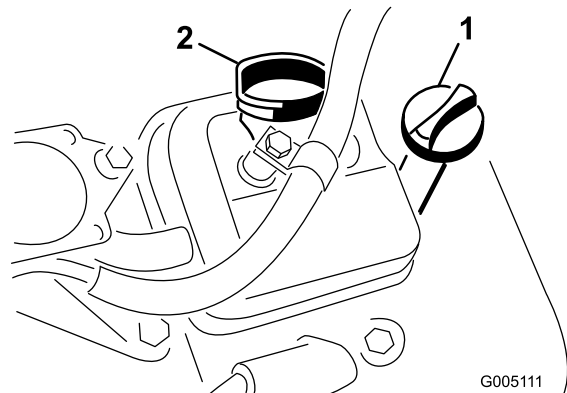

Figure 24
2. Unscrew the dipstick and wipe it with a clean rag. Screw the dipstick into the tube and make sure it is seated fully (Figure 24).